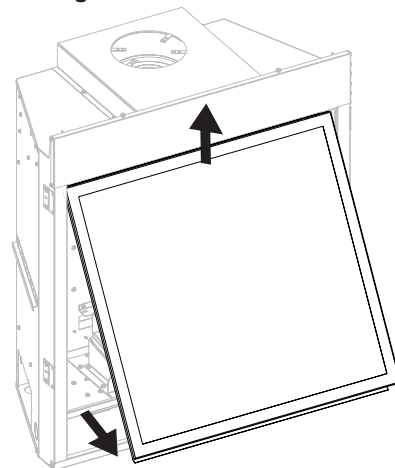

Figure 6
3. Disengage Glass Frame by pulling outward in a swinging motion. Place Glass Frame aside in a safe out-of-the-way location. **See Figure 6.**